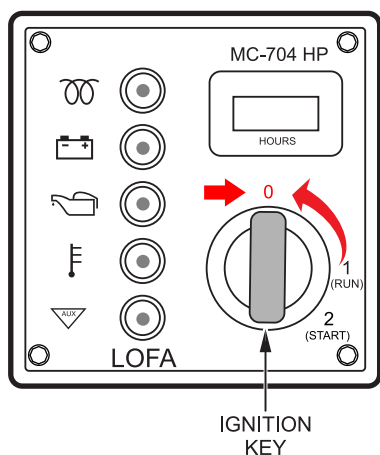

Figure 18. Ignition Switch Position 0 (OFF)
2. Turn the **ignition key** (Figure 18) counterclockwise to position 0 (OFF).